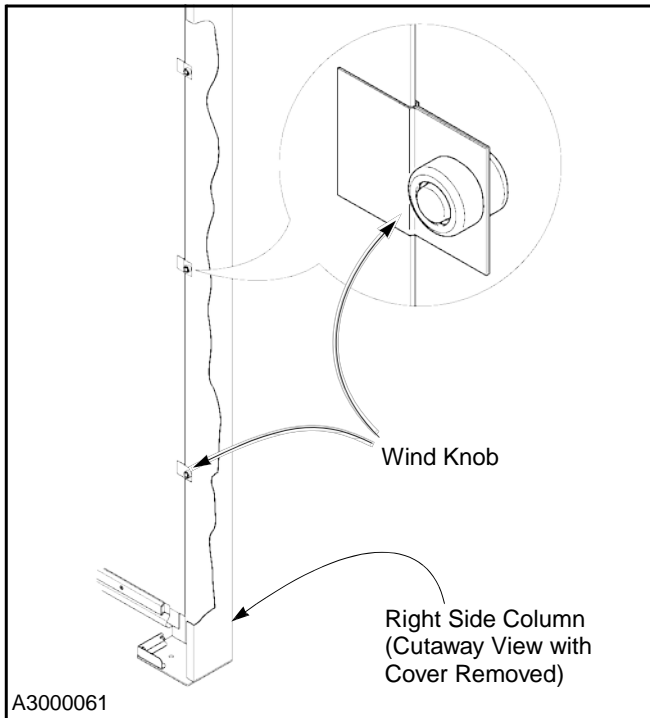

Figure 28
3. Remove the side column cover adjacent to the wind knob that is to be replaced. (See Figure 28.)